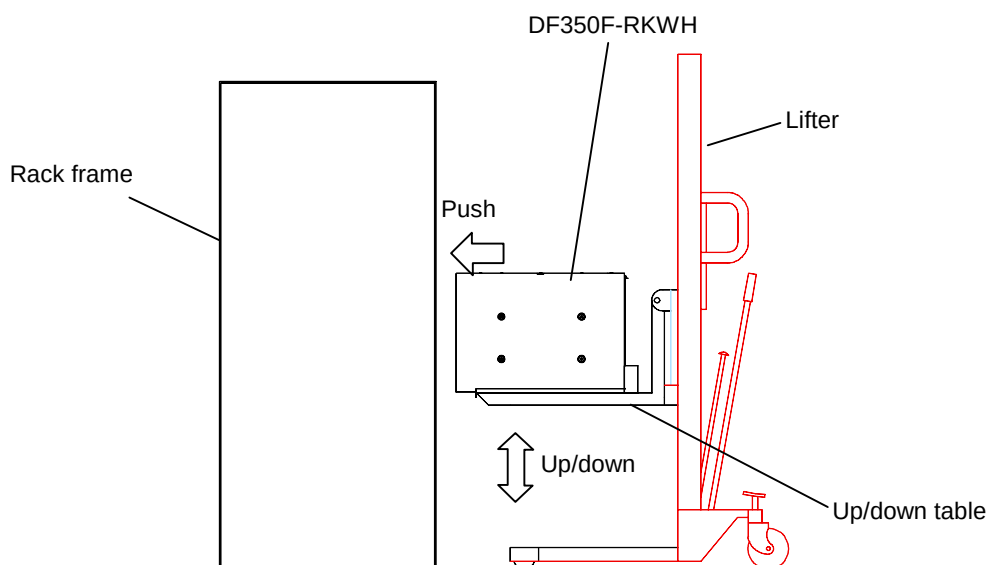

Figure 2.4.5 Install the DF350F-RKWH into the Rack Frame
2.4.5 Install the subsystem into the rack (See Figure 2.4.5.)